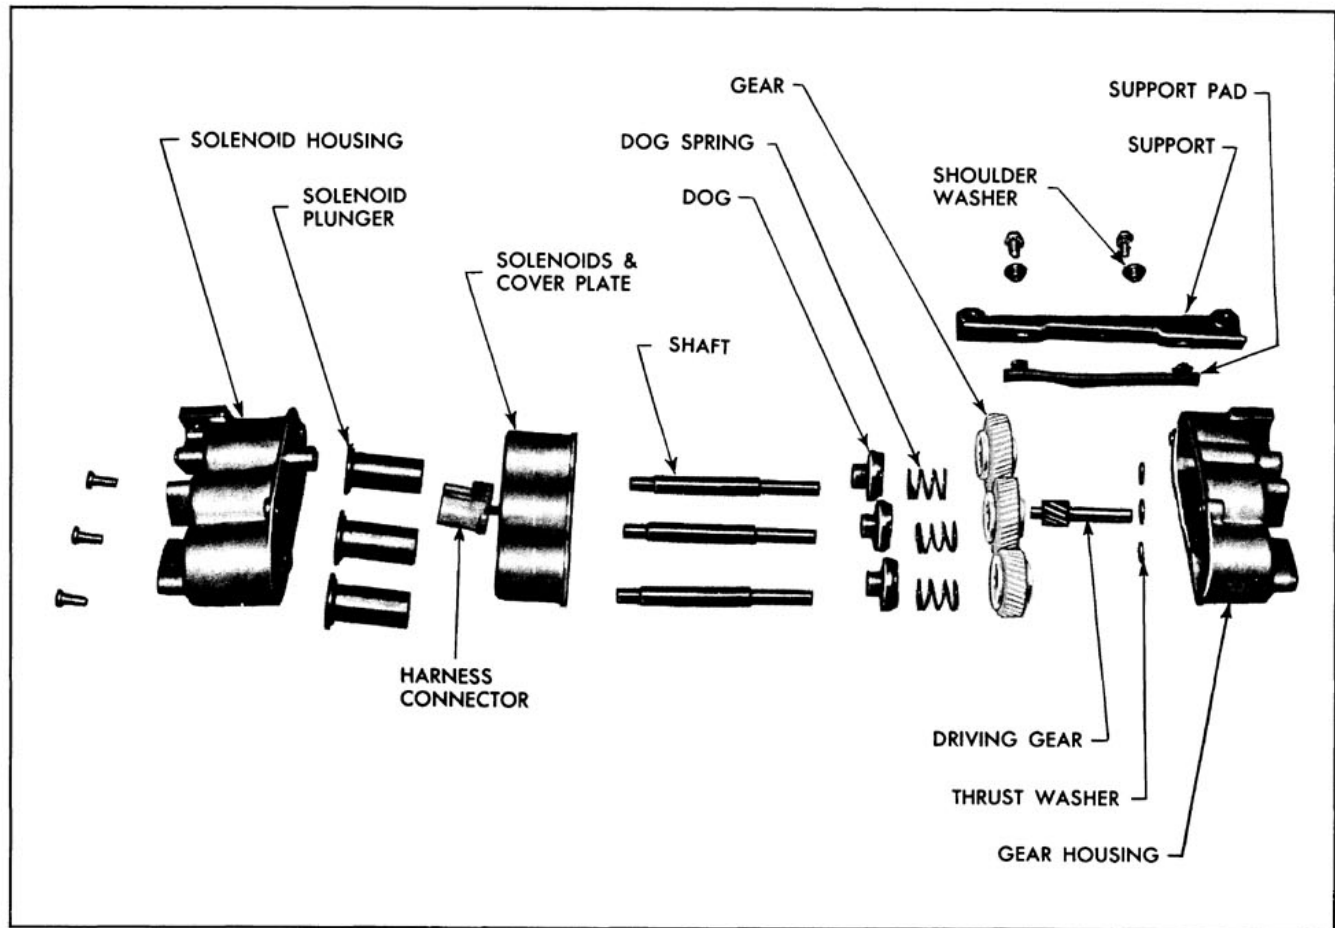

Fig. 16-100 Six Way Seat Transmission Assembly
2. Remove screws securing gear housing to the solenoid housing; then, carefully separate housings and remove component parts of transmission assembly. (Fig. 16-100)